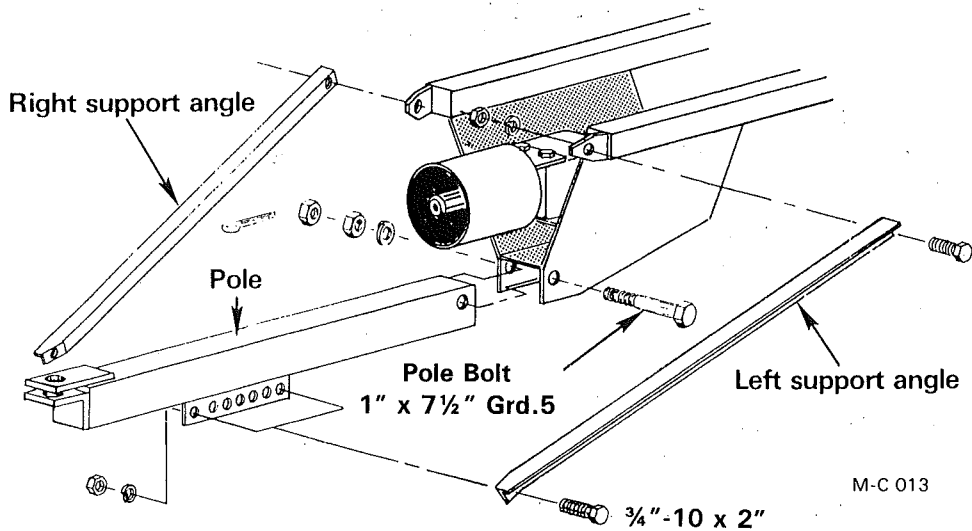

Figure 5
1. Lift the front of the Shredder with a chain hoist and place the pole in position under the gear box and install the pole supports, 1" x 7½" Grade #5 pole bolt, 1" lockwasher, hex nuts, and ¾" x 2" cotter pin, see Figures 5 and 6.
2. There are seven pole support angle mounting holes on each side of the pole, see Figure 5 and 6. Select the position that will set the pole at the correct tractor drawbar height and keep the Shredder body as level as possible (see note). Secure the pole support angles with four ¾"-10 x 2" (Grade 5) hex-head capscrews, lockwashers and nuts.